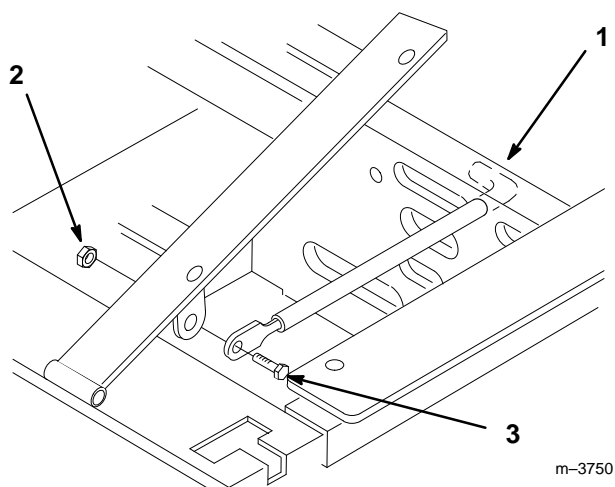

Figure 1
5. Tilt seat up. Remove 5/16" locknut from bolt attaching seat retaining rod to seat frame (Fig. 1).
6. Remove retaining rod from seat and insert the "L" shaped end of the rod into the hole directly above the left-side hydraulic pump mounting hardware (the "L" must be positioned to the right) (Fig. 1).
7. Place the seat retaining rod to the outside of the mounting tab of the seat frame and secure with 5/16–18 x 1" (26 mm) bolt and 5/16" locknut (Fig. 1).